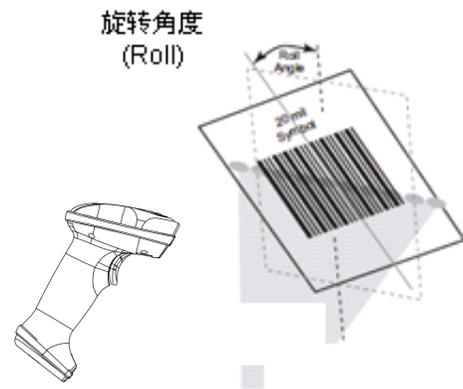

Fig. 1-12
- ◇ Roll : $\pm 30^\circ$, 0° Pitch and 0° Skew (Fig. 1-12)